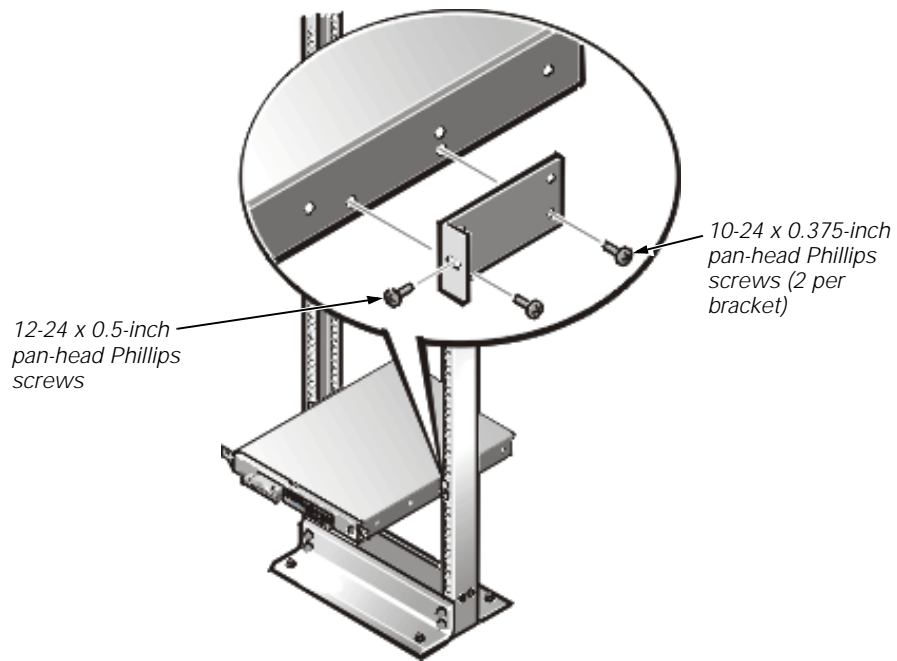

Figure 3. Securing the System in the Rack
1. Locate one of the two brackets and align it over the two threaded holes on the side of the system (see Figure 3).
2. Secure the bracket to the system chassis using two 10-24 x 0.375-inch screws (see Figure 3).
1. Lift the system into position between the two posts, with the hole in the mounting bracket aligned one hole above the mark you made in the two posts (see Figure 3).
2. Secure the system to the rack using a 12-24 x 0.5-inch screw through the mounting bracket to the front of the left and right posts (see Figure 3).